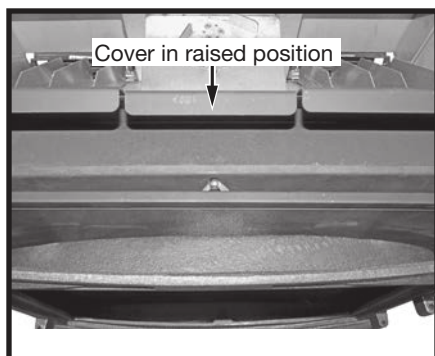

Figure 37: Trenton cover plate.
2. Raise the glass door and safety screen cover (Figure 37) and lift the safety screen out.